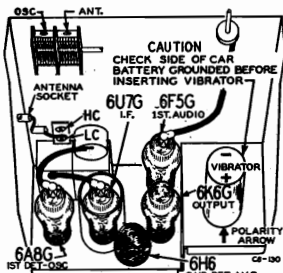

Fig. 4—Location of Tubes
**Both Models**—Set the signal generator for 1550 KC. Turn the rotor of the tuning condenser to the full open position. Adjust the trimmer of the oscillator section of the gang condenser until maximum output is obtained. See Fig. 4 for location of this trimmer.